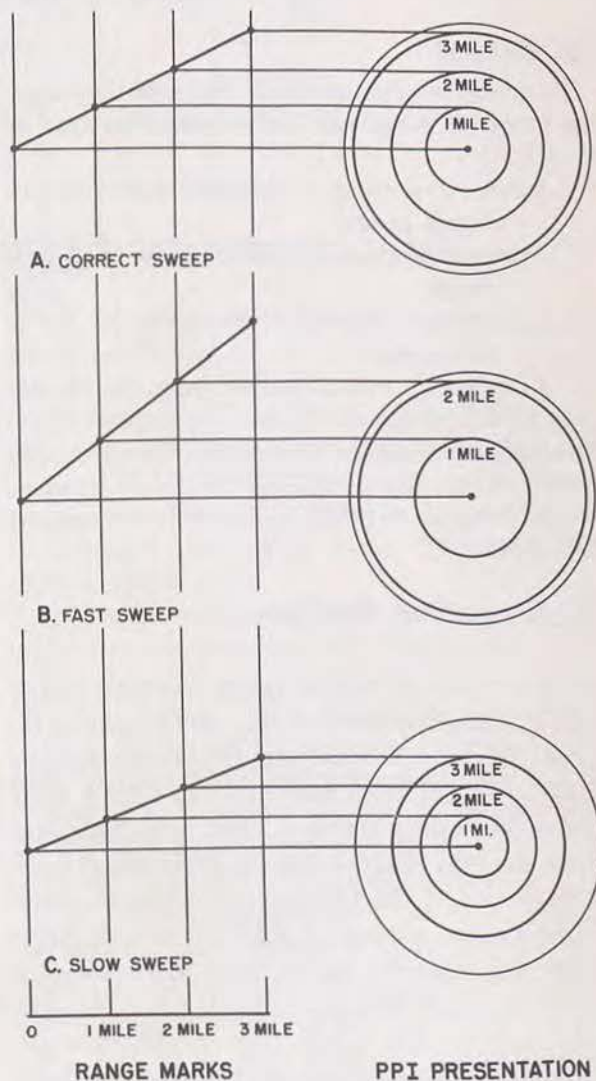

Figure 66. Effect of slow and fast sweeps on PPI picture.
b. The time constant can be adjusted by sweep length control R118 (on the 3-mile range) to give the proper slope to the sweep. If the time constant is too small, the sweep moves out to the edge of the PPI too quickly, and the last ring does not appear (B, fig. 66). If the time constant is too long, the sweep may not reach the edge of the PPI, which will make the entire picture too small (C, fig. 66).